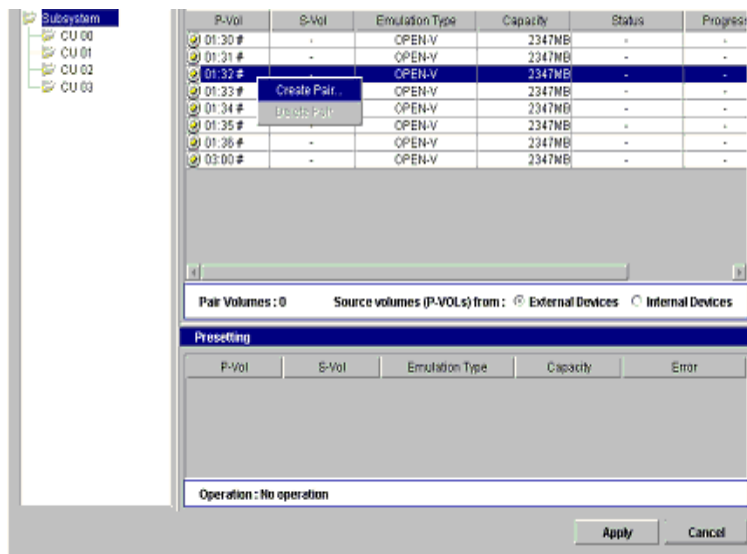

Figure 345: Flex Copy pane (Create Pair Command)
4. In the **P-VOL** column of the Pair List, select one or more local disk array LUs that are not already set as a copy pair, and right-click to select the **Create Pair** command (see Figure 345 page 901).